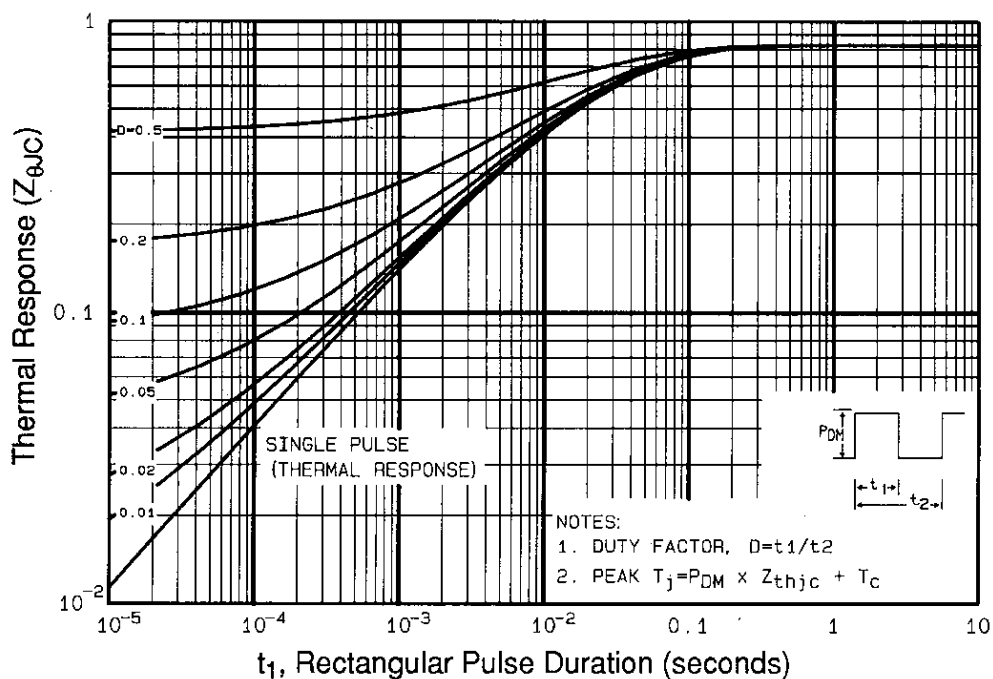

Fig 11. Maximum Effective Transient Thermal Impedance, Junction-to-Case
- ① Repetitive rating; pulse width limited by max. junction temperature (See Figure 11)
- ② $V_{DD}=25V$, starting $T_J=25^\circ\text{C}$, $L=156\mu H$